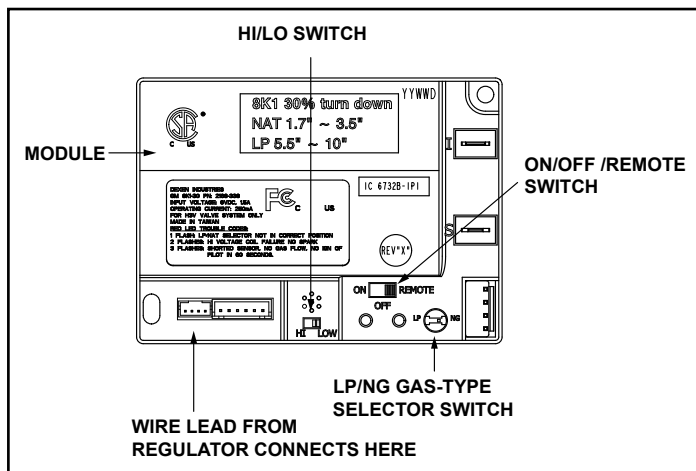

Figure 3.8 Control Module
This model has a variable burn rate which is controlled by the HI/LO switch on the control module. Therefore the flame height is adjustable. The HI/LO switch is shown in Figure 3.8. It is located in the control cavity of the appliance.
1. The control module has an ON/OFF/REMOTE selector switch that must be set. See Figure 3.8.
- If using the wired switch in the control cavity with the module in REMOTE mode, the flame output can be adjusted with the HI/LO selector switch on the module. See Figure 3.8. Note that the flame HI/LO selector switch will become inactive once an optional remote control (RC200/RC300) is programmed to the control module. Note that the control module will always ignite the stove on HI and remain so for the initial 10 seconds of operation. If the HI/LO is switched to the LO position, the flame output will automatically drop to the lowest setting after the flame has been established for 10 sec. After this 10 second period, the flame can be adjusted from HI to LO with the switch.
- Locate the module selector switch. (See Figure 3.8).
- Wait five (5) minutes to allow possible accumulated gas to clear.